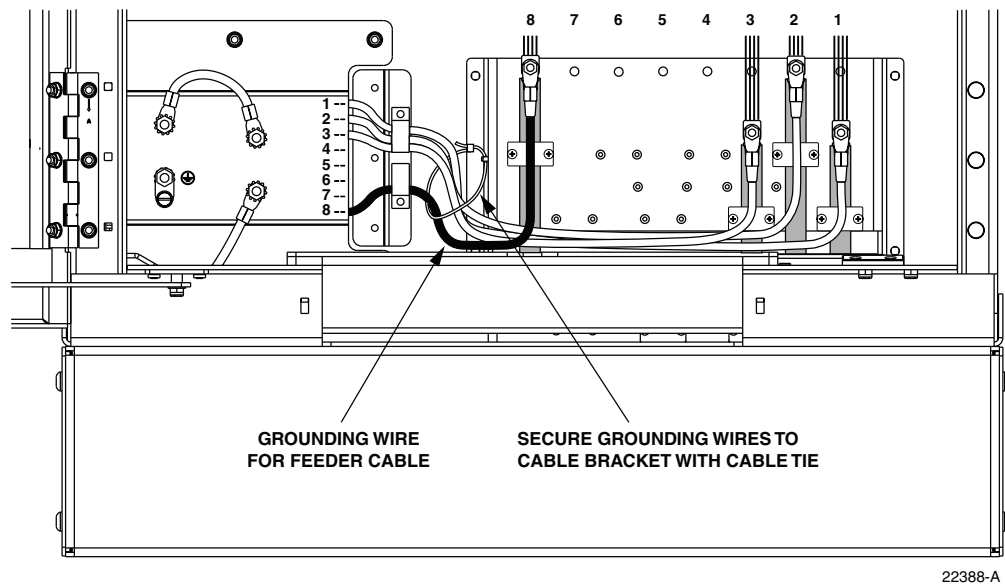

Figure 20. Route Grounding Cable to Grounding System
3. Route the feeder cable jumper wire to the weather-seal strip as shown in Figure 20 and push the free end of the wire through the hole that corresponds to cable 8.